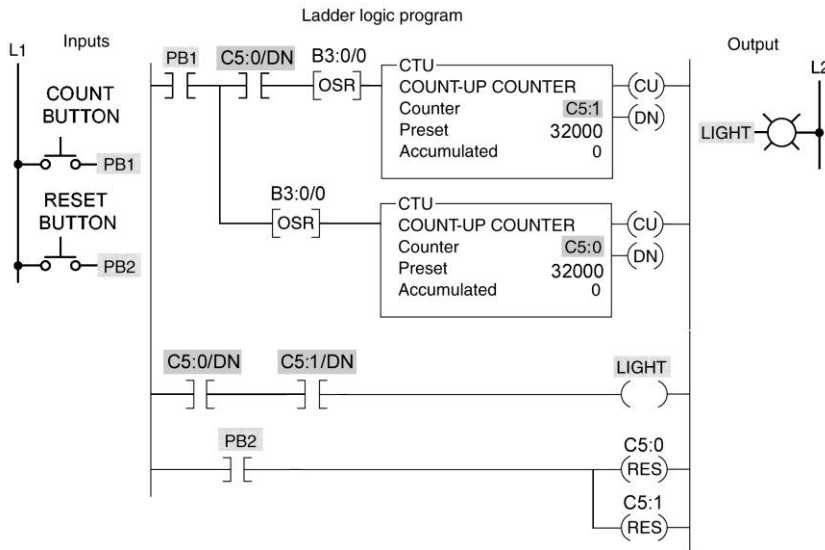

Figure 8-14
8) The cascading of counters program shown in Figure 8-14 is described in the text. Prepare an I/O connection diagram and ladder logic program for the process. Use addresses that apply to your PLC. Enter the program into the PLC, and prove its operation.